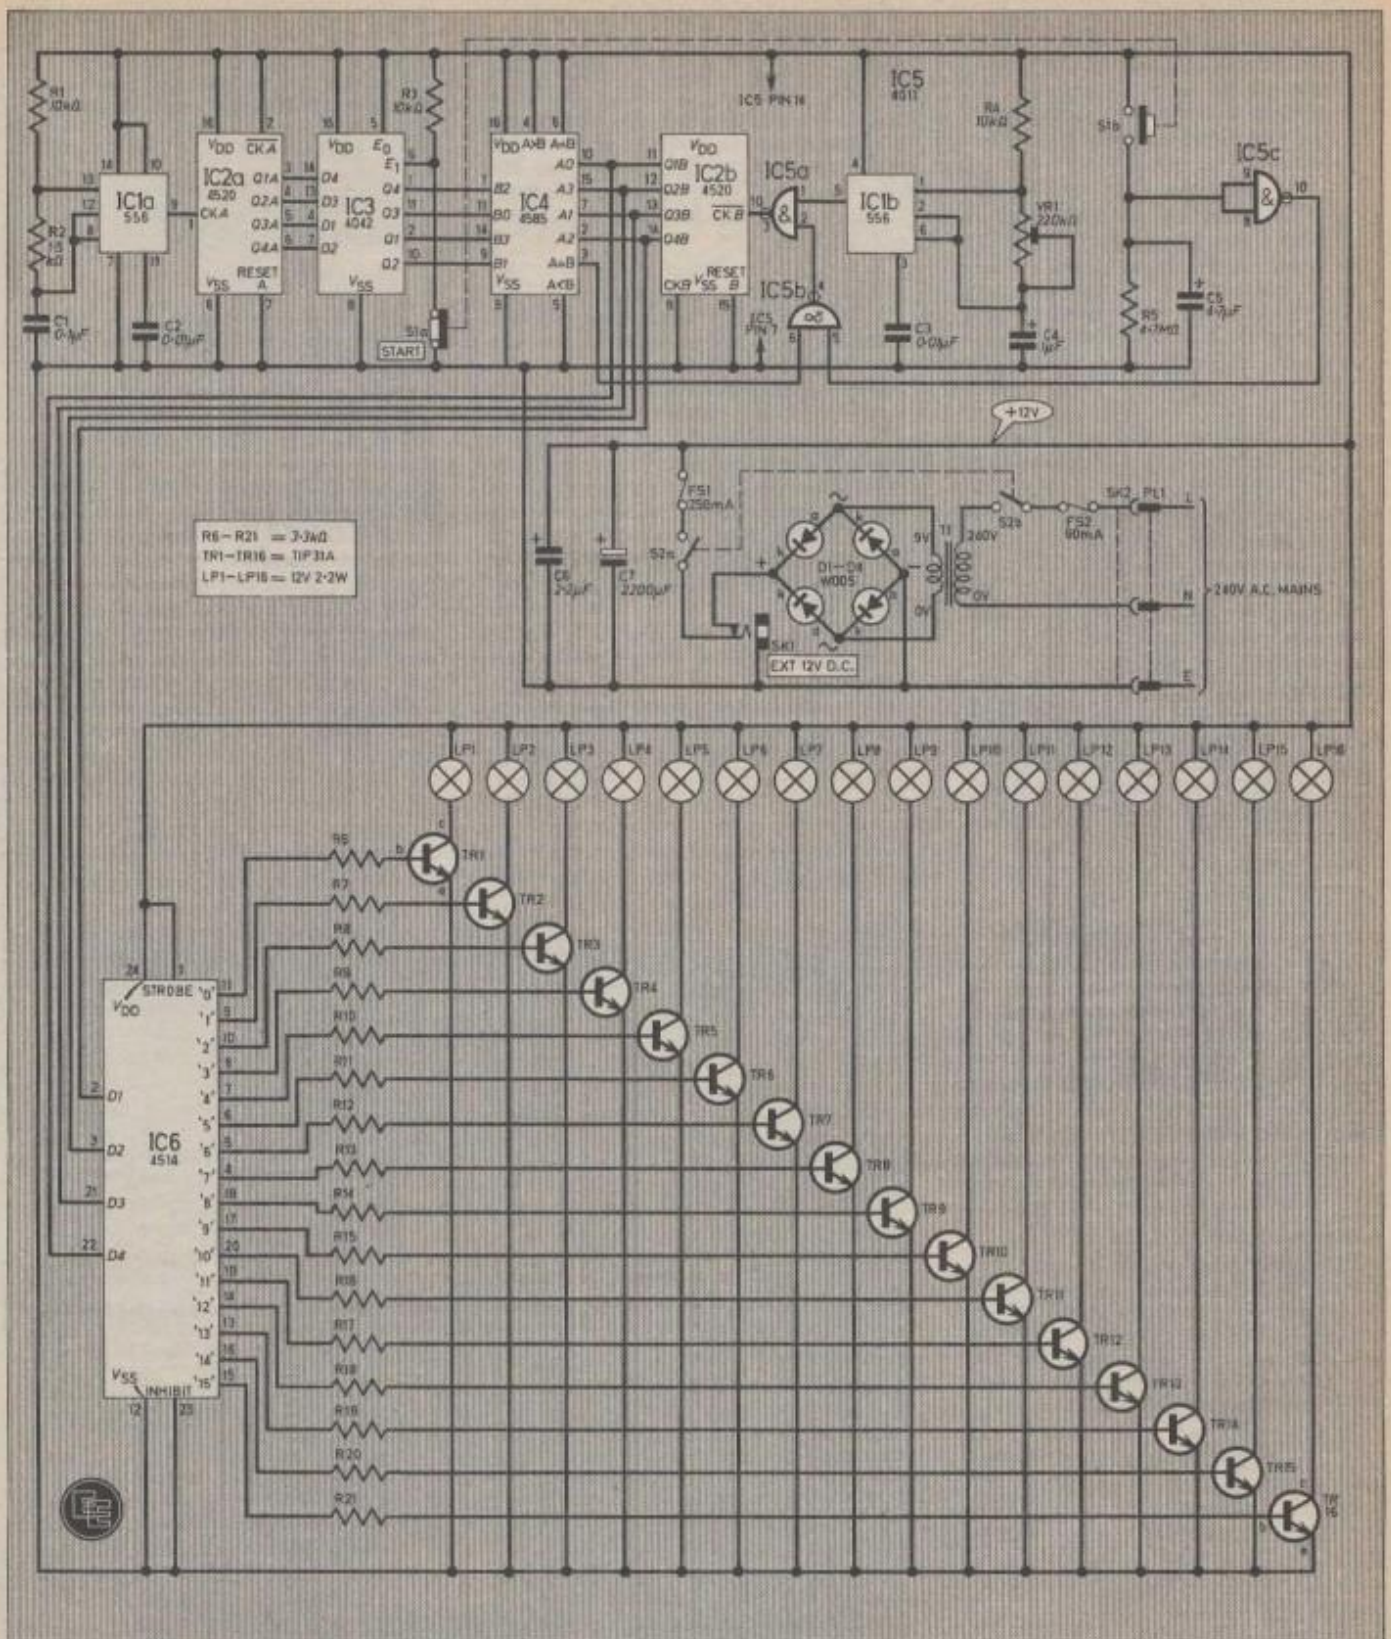

Fig. 1. The complete circuit diagram for the Wheel of Fortune.
The complete circuit is shown in Fig. 1, and for ease of description can be split into the following sections: (1) power supply (2) random number generator (3) display decoder driver circuit.